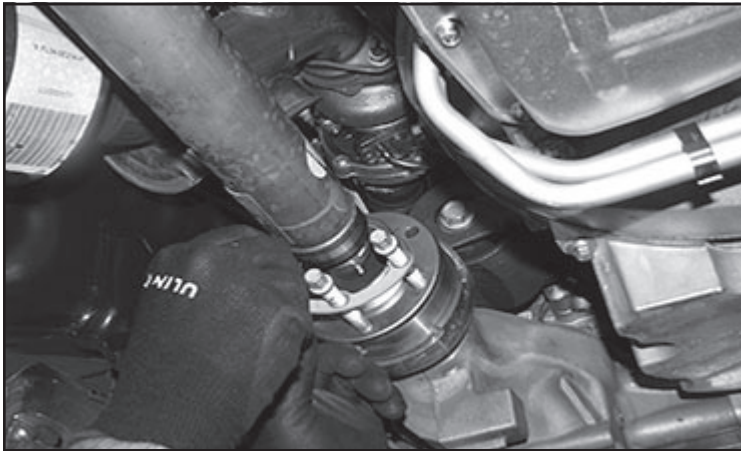

FIGURE 11 - STEP 13
13. Remove the front drive shaft bolts where they attach to the front differential. Support the end of the driveshaft before removing the front differential. **SEE FIGURE 11**